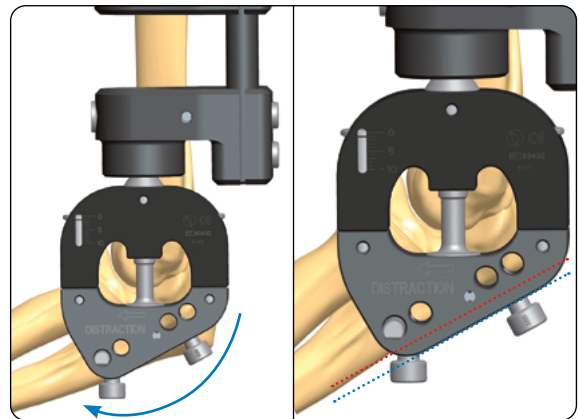

Fig. 11a
9) Insert a 120/20 4.5-3.5mm cortical screw (10137) **(Fig. 11a)**. The distal screw should be inserted first taking care that the Ulnar Rod is parallel to the posterior border of the Ulna. After insertion of the distal screw, the clamp has to be locked tightly before the second screw hole is prepared.